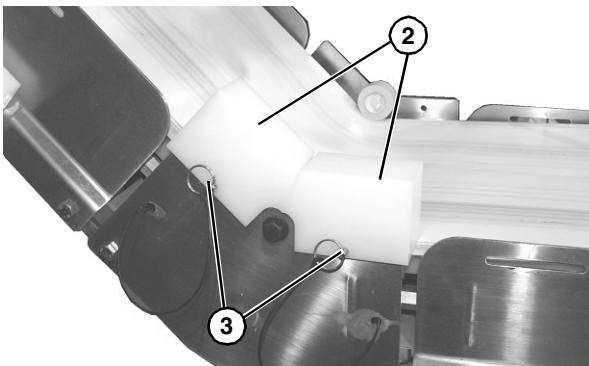

Figure 24
2. Slide the guides (Figure 24, item 2) onto the knuckle frame, and secure with two pull pins (Figure 24, item 3).